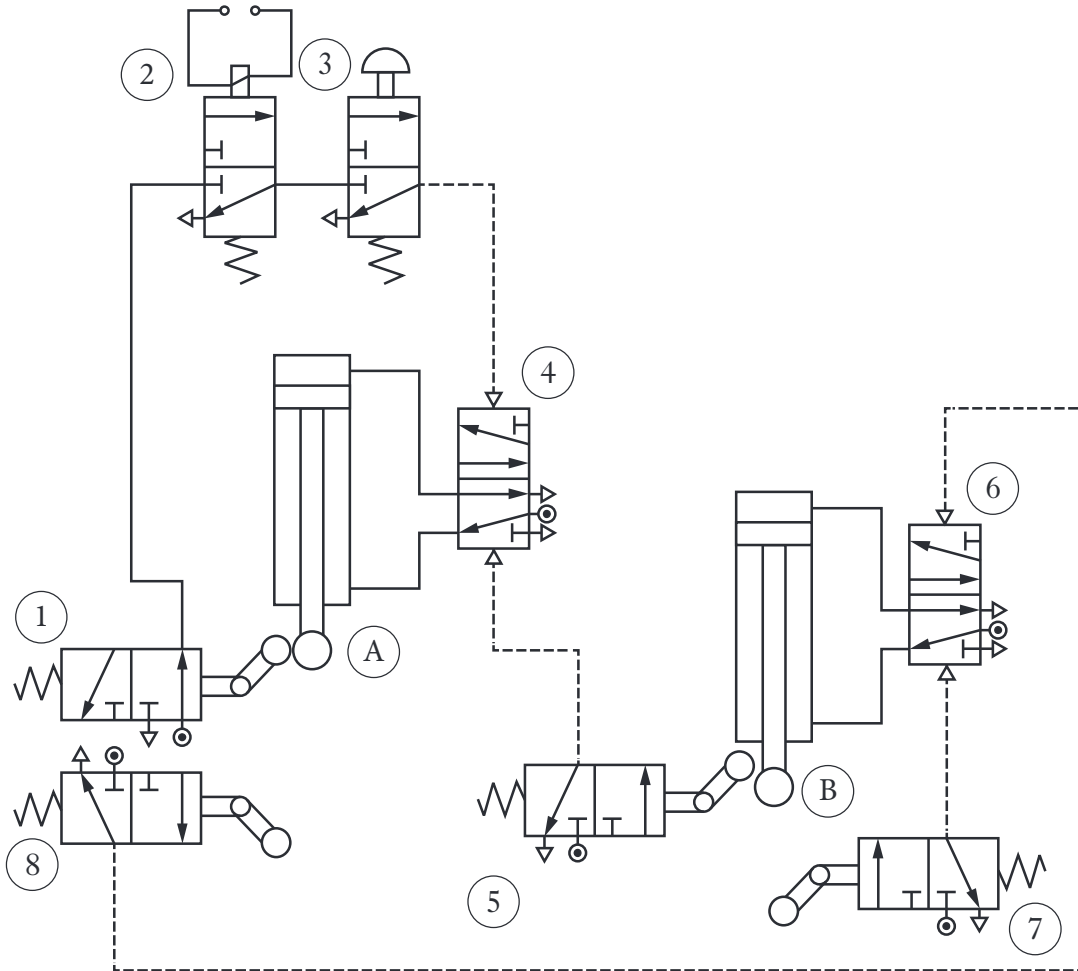

Figure Q11(a)
11. A pneumatic circuit for a stamping system to press mechanical parts out of a sheet of metal is shown in Figure Q11(a).
The pneumatic circuit shown in Figure Q11(a) uses sequential control.